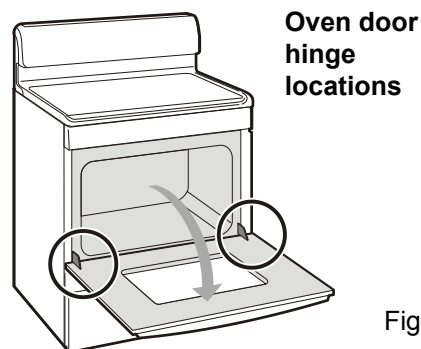

Fig. 1
3. Fully open the oven door (horizontal with floor - See Fig. 1).